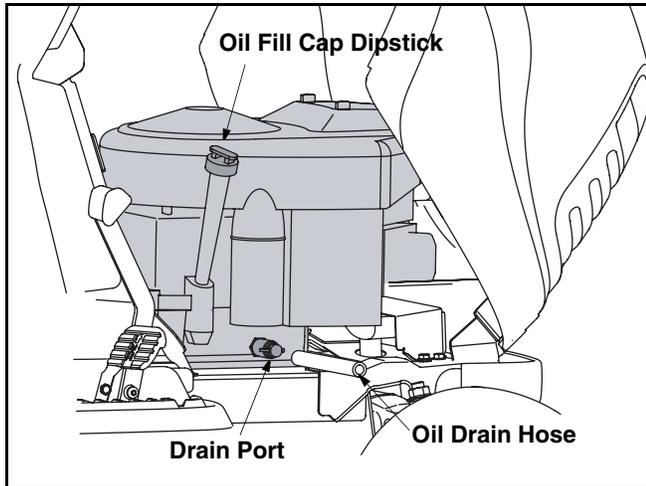

Figure 15
- Unscrew oil fill cap and remove dipstick from the oil fill tube. See Figure 15.
- Pop open the protective cap on the end of the oil drain valve to expose the oil drain port. See Figure 15.
- Push the oil drain valve in slightly, then rotate counterclockwise and pull outward to begin draining oil. See Figure 15.